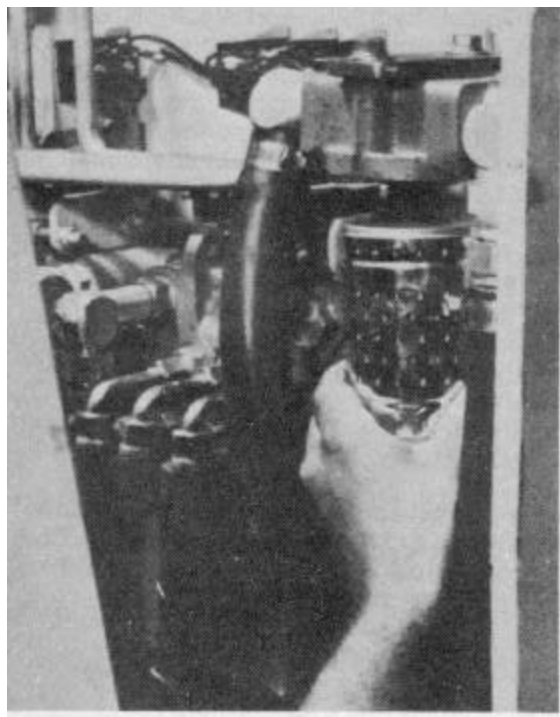

Figure 5-141
4. Remove the used filter element by grasping it at the end and pulling it downward and off the support tube (Fig. 5-141).